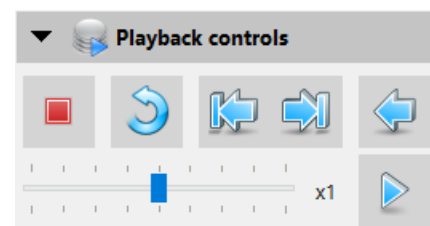

Figure 6. Playback Controls
**Playback controls** appear on the sidebar in playback mode. The playback controls include stop playback, restart from first file, previous file, next file, seek start of file, start/pause buttons and a slider bar to speed up or slow down playback (Figure 6). Playback of \*.son (BlueView data) files includes a Sound Velocity input box in the BlueView \*.son file controls to allow user to change the sound velocity value with which the data are presented.